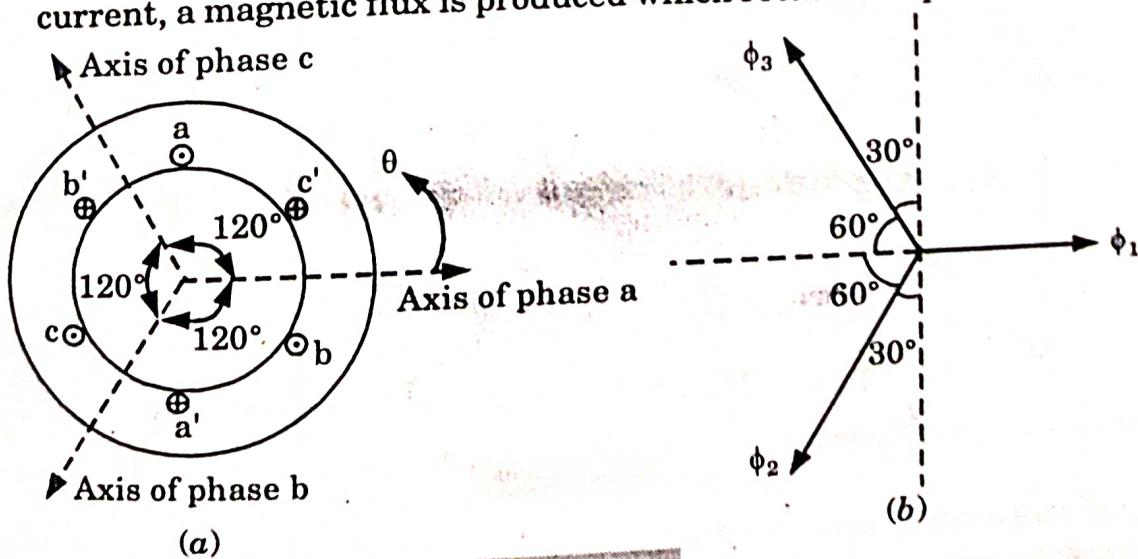

Fig. 3.2.1.
3. From Fig. 3.2.1(b) the resultant horizontal component of flux